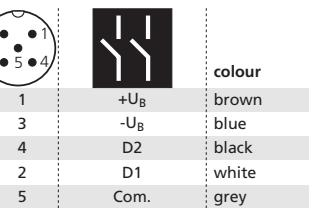

Fig. 1: Pin assignment with view onto sensor plug and colour coding of the microsonic connection cable
- Plug in the connector cable to the M 12 connector, see fig.1.